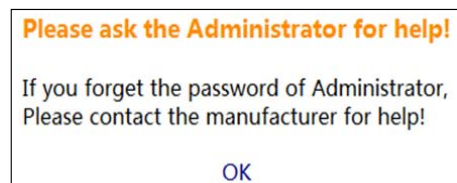

Fig. 51 —“Forgot?” Password Prompt
- If you forget your login password, click “Forgot?” See Figure 51. The following prompt will be displayed: